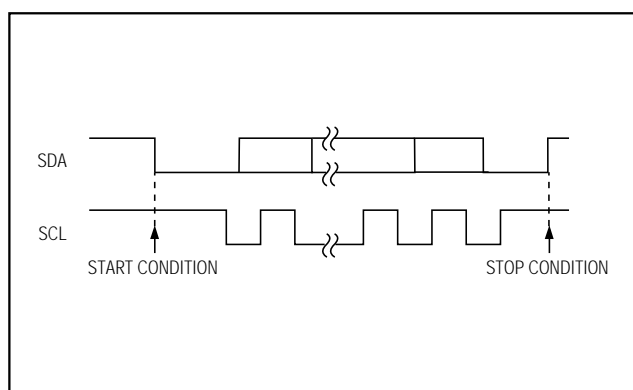
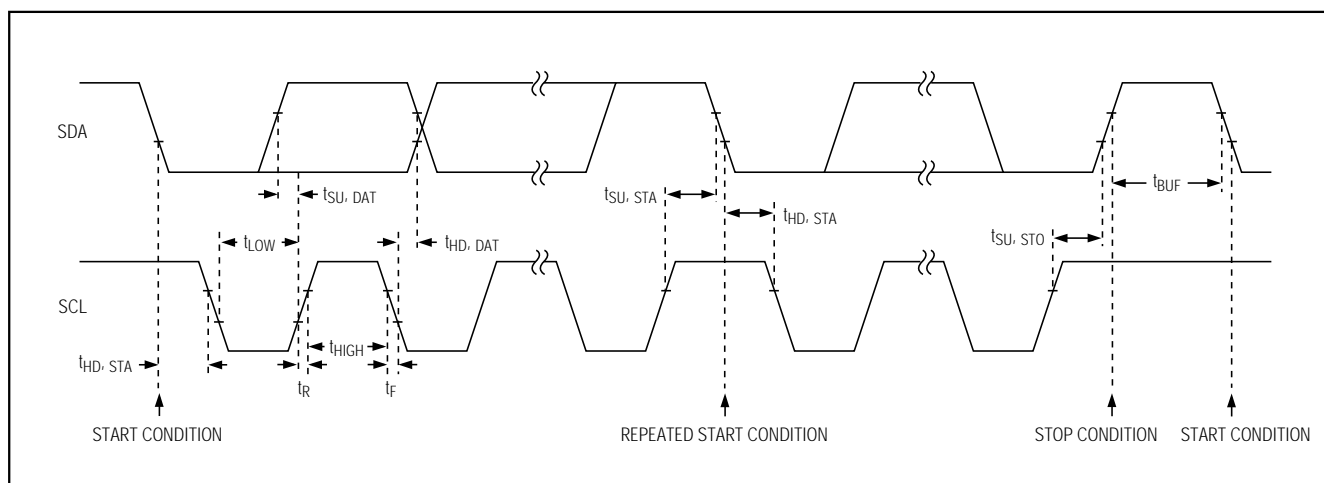
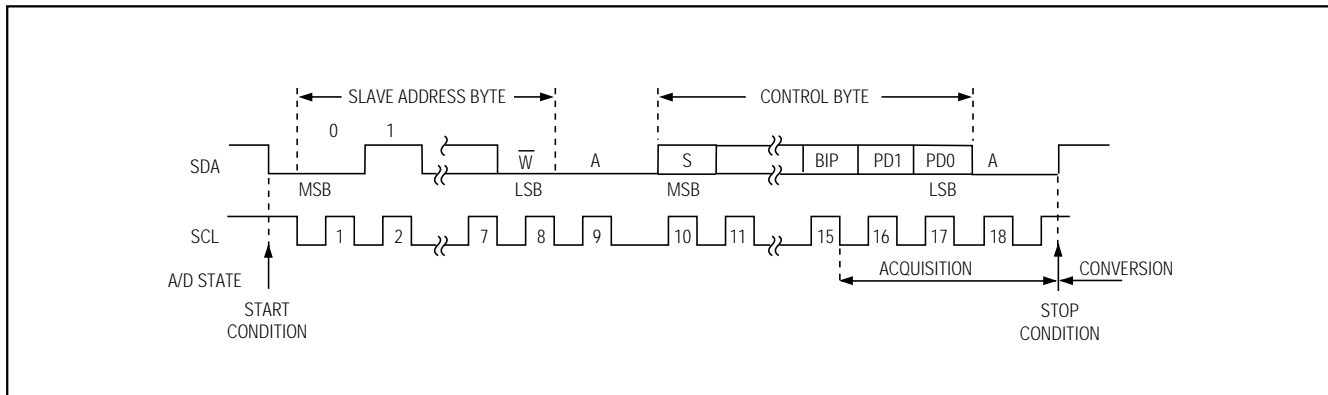

Figure 4. START and STOP Conditions
Figure 5. 2-Wire Serial-Interface Timing Diagram
Figure 9. Complete 2-Wire Serial Write Transmission
The master signals the beginning of a transmission with a START condition (S), which is a high-to-low transition on SDA while SCL is high. When the master has finished communicating with the slave, the master issues a STOP condition (P), which is a low-to-high transition on SDA while SCL is high (Figure 4). The bus is then free for another transmission. Figure 5 shows the timing diagram for signals on the 2-wire interface. The address-byte, control-byte, and data-byte are transmitted between the START and STOP conditions. The SDA state is allowed to change only while SCL is low, except for the START and STOP conditions. Data is transmitted in 8-bit words. Nine clock cycles are required to transfer the data in or out of the MAX127/MAX128. (Figures 9 and 10).
When the write bit is set ( $R/\bar{W} = 0$ ), acquisition starts as soon as Bit 2 (BIP) of the input control-byte has been latched and ends when a STOP condition has been issued. Conversion starts immediately after acquisition. The MAX127/MAX128's internal conversion clock frequency is 1.56MHz, resulting in a typical conversion time of 7.7 $\mu$ s. Figure 9 shows a complete write cycle.